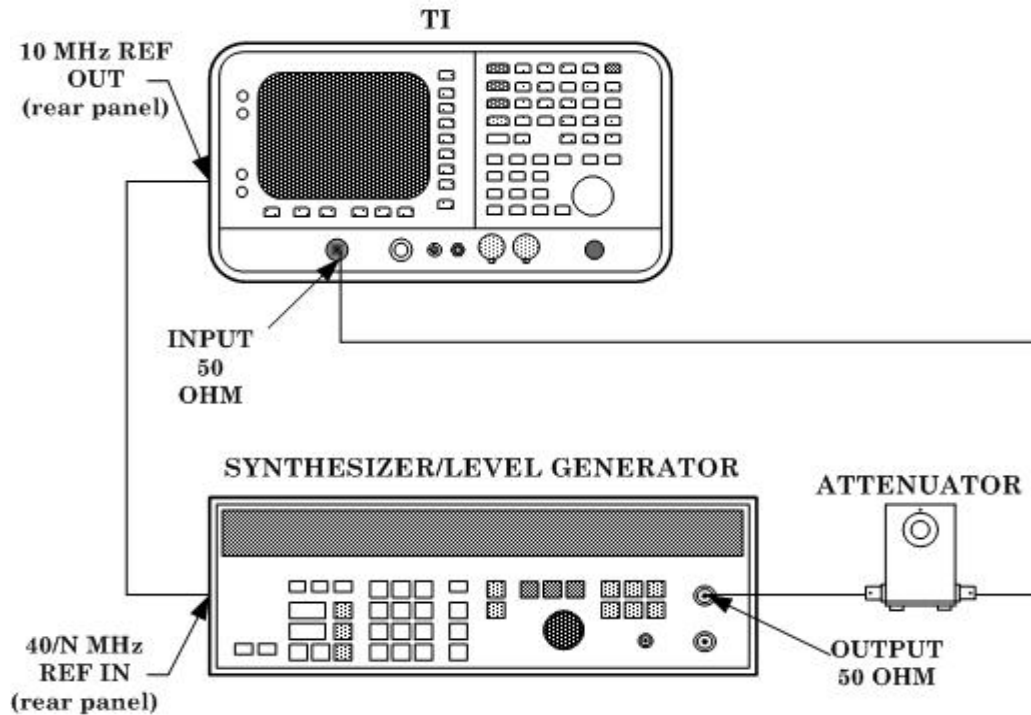

Figure 2. Input attenuator accuracy equipment setup.
(1) Connect equipment as shown in figure 2.